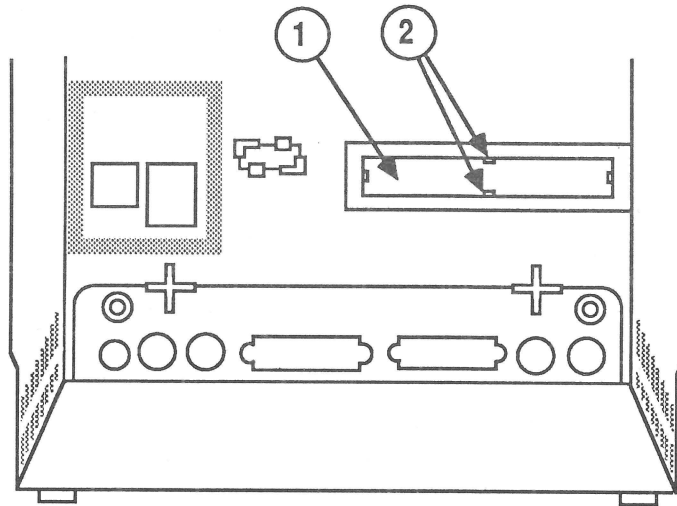

FIGURE 1
2. If you are installing the cable (and not replacing it), locate the expansion port cover (Figure 1, #1) on the inside of the Macintosh SE cover. Squeeze the two center mounting tabs on the expansion cover (Figure 1, #2) toward each other, and push out to remove it.